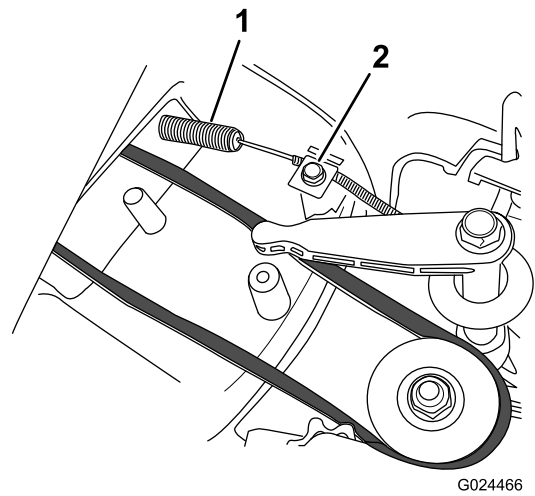

Figure 32
2. Install the new blade-brake cable, but do not tighten the cable clamp on the top of the mower housing (Figure 32).